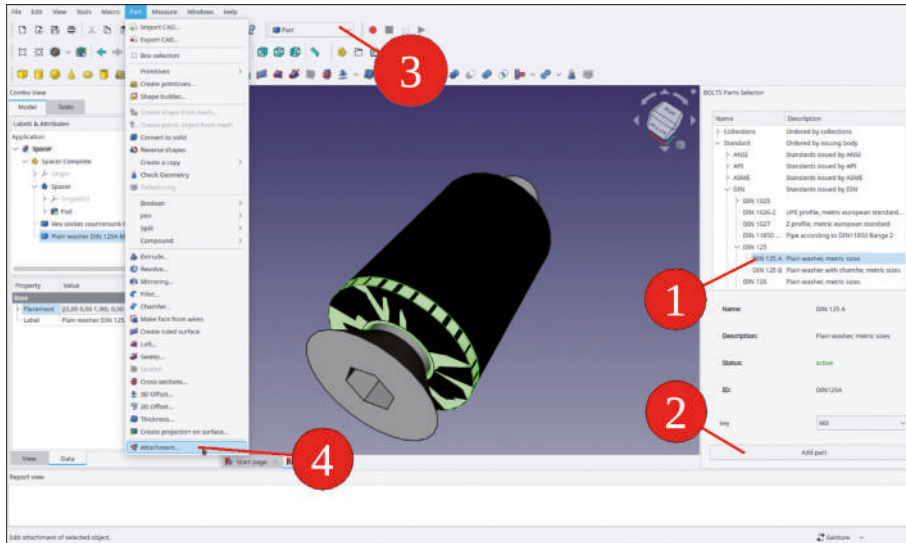

Figure 4-14
7. From the 'BOLTS Parts Selector', choose 'DIN | DIN12 | DIN125 A Plain washer, metric sizes', with key M3 (preset), and click the 'Add Part' button (Figure 4-14, steps 1 and 2). The washer appears in the 3D view. In the tree view, it needs to be dragged-and-dropped into the Std-Part-Container 'Spacer Complete', in order to gather the belongings.
8. Again, the placement parameters could be used to bring the spacer to an appropriate position. However, it is better to define an attachment for the automation of that step. This is useful, if later e.g., variants of the part are needed which differ in length. Then, after the change of just the length parameter, the washer (and also nut, later) will follow the designer diligently. In order to define the attachment relation, switch to the 'Part' workbench (Figure 4-14, step 3).
9. In the tree view, because of the preceding steps, 'Plain washer DIN125A M3' should be still marked, otherwise click the item. From the main menu, select 'Part | Attachment' (Figure 4-14, step 4). A task window opens, in which you can proceed with defining the new relation.